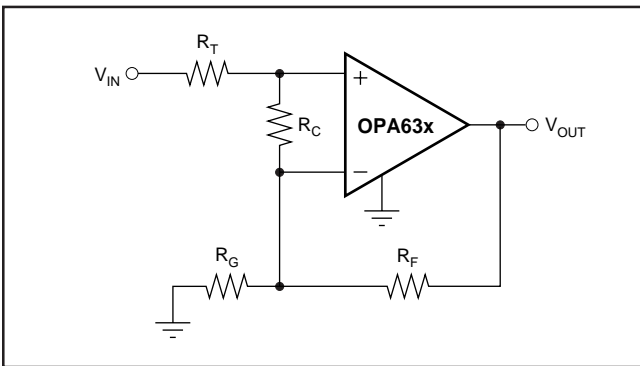

FIGURE 4. Compensated Non-Inverting Amplifier.
Figure 4 shows a non-inverting amplifier that reduces peaking at low gains. The resistor R_C compensates the OPA631 or OPA632 to have higher Noise Gain (NG), which reduces the AC response peaking (typically 5dB at $G = +1$ without R_C) without changing the DC gain. V_{IN} needs to be a low impedance source, such as an op amp. The resistor values are low to reduce noise. Using both R_T and R_F helps minimize the impact of parasitic impedances.
Since the OPA631 and OPA632 are voltage feedback op amps, a wide range of resistor values may be used for the feedback and gain setting resistors. The primary limits on these values are set by dynamic range (noise and distortion) and parasitic capacitance considerations. For a non-inverting unity gain follower application, the feedback connection should be made with a 25Ω resistor, not a direct short (see Figure 4). This will isolate the inverting input capacitance from the output pin and improve the frequency response flatness. Usually, for $G > 1$ application, the feedback resistor value should be between 200Ω and $1.5k\Omega$. Below 200Ω , the feedback network will present additional output loading which can degrade the harmonic distortion performance. Above $1.5k\Omega$, the typical parasitic capacitance (approximately $0.2pF$) across the feedback resistor may cause unintentional band-limiting in the amplifier response.
The criterion for setting this R_S resistor is a maximum bandwidth, flat frequency response at the load. For a gain of $+2$, the frequency response at the output pin is already slightly peaked without the capacitive load, requiring relatively high values of R_S to flatten the response at the load. Increasing the noise gain will also reduce the peaking (see Figure 4).
Resistors should be a very low reactance type. Surface-mount resistors work best and allow a tighter overall layout. Metal film or carbon composition axially-leaded resistors can also provide good high frequency performance. Again, keep their leads and PC board traces as short as possible. Never use wirewound type resistors in a high frequency application. Since the output pin and inverting input pin are the most sensitive to parasitic capacitance, always position the feedback and series output resistor, if any, as close as possible to the output pin. Other network components, such as non-inverting input termination resistors, should also be placed close to the package. Where double-side component mounting is allowed, place the feedback resistor directly under the package on the other side of the board between the output and inverting input pins. Even with a low parasitic capacitance shunting the external resistors, excessively high resistor values can create significant time constants that can degrade performance. Good axial metal film or surface-mount resistors have approximately 0.2pF in shunt with the resistor. For resistor values > 1.5kΩ, this parasitic capacitance can add a pole and/or zero below 500MHz that can effect circuit operation. Keep resistor values as low as possible consistent with load driving considerations. The 750Ω feedback used in the typical performance specifications is a good starting point for design. See Figure 4 for the unity gain follower application.